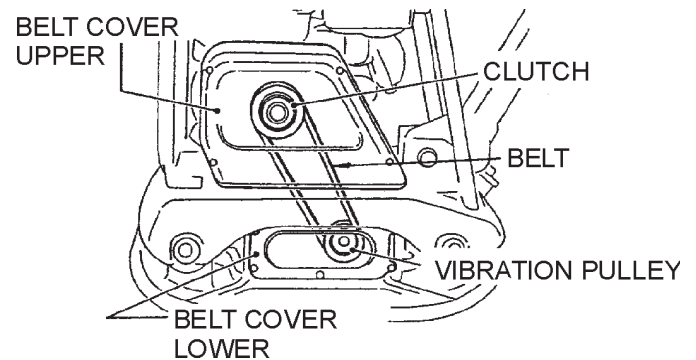

Figure 9. V-Belt Location
1. To check the V-belt tension (Figure 9), remove **upper** belt cover.